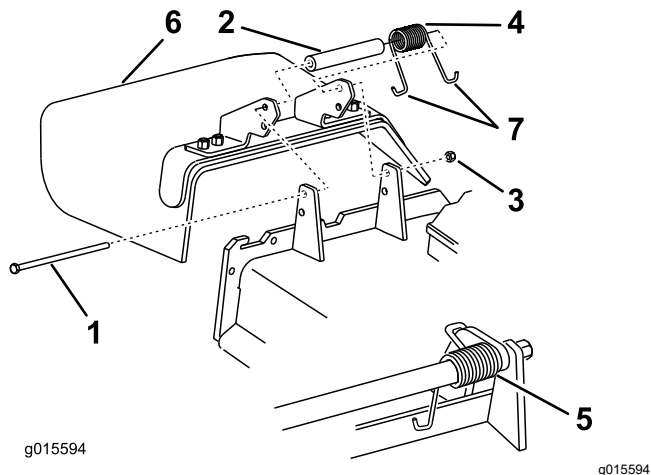

Figure 85
1. Remove the locknut, bolt, spring, and spacer holding the deflector to the pivot brackets (Figure 85).
2. Remove the damaged or worn grass deflector (Figure 85).
Note: Make sure that 1 J-hook end of the spring is installed behind the deck edge before installing the bolt as shown in Figure 85.
6. Place 1 J-hook end of the spring around the grass deflector (Figure 85).